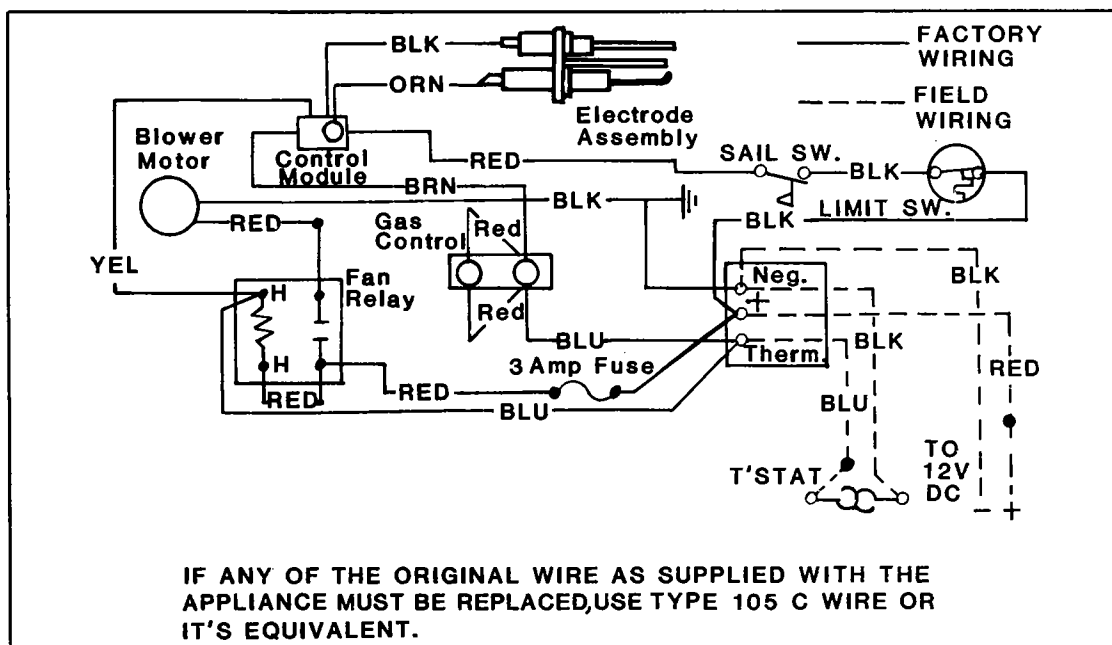

Figure 53. Wiring Diagram
3. Check for spark at electrodes during the first five seconds of the cycle. Check electrode setting (figure 53). Readjust if necessary. Remove any carbon deposits on electrode tip.